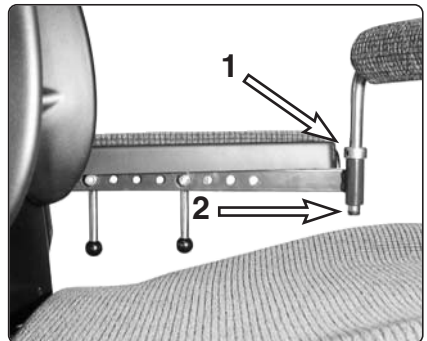

Fig. 6. Chest support.
1. Loosen the socket head cap screws for the locking ring on each side of the chest support, see Fig. 6:1.
2. Adjust the chest support to the appropriate height. Never adjust the height so high that the chest support bar becomes invisible below the bushing, see Fig. 6:2.